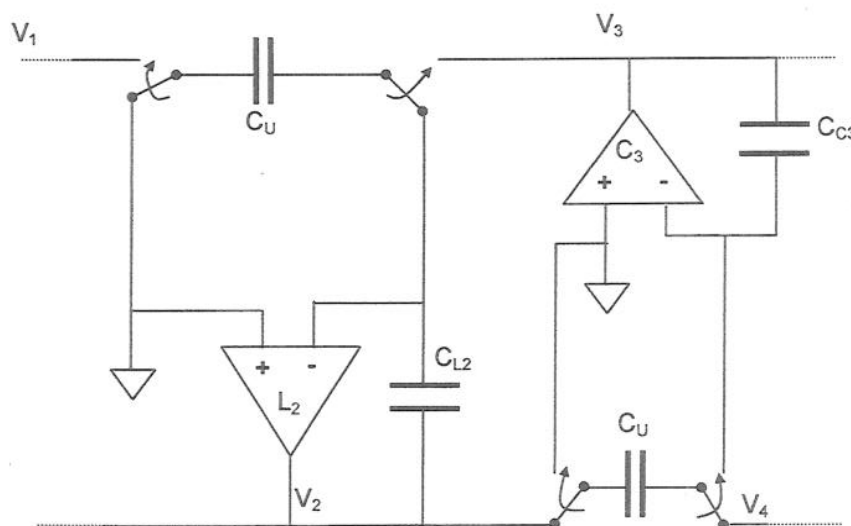

Figure 5.1
- (b) Figure 5.1 shows one section of a switched capacitor ladder filter. Based on this filter structure, design a 3rd-order Chebyshev low-pass filter with a cut-off frequency of 5 kHz and a 1.0 dB pass band ripple. Assume a clock frequency of 100 kHz. Passive component values for the LC prototype, normalised to 1 rad/s, are  $C_1 = C_3 = 2.0236$ ,  $L_2 = 0.994$ . In your analysis assume all integrators to be lossless. [10]